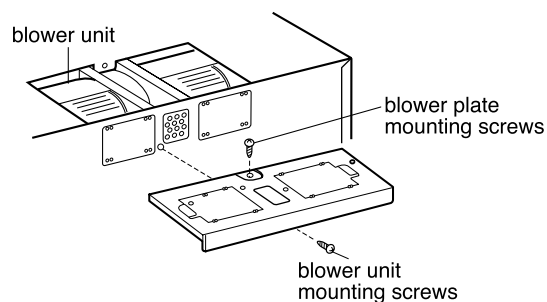

Figure 19
1. Remove one blower unit mounting screw and one blower plate screw. Remove the blower plate from cabinet. See Figure 19.